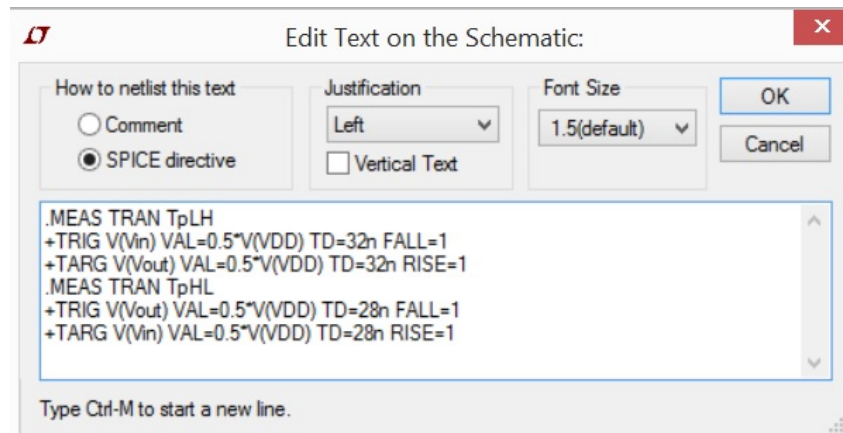

Figure 29. Commands for measuring the delay
- B. Click  to add SPICE directive, and enter the .MEAS commands in the blank field as Figure 29.